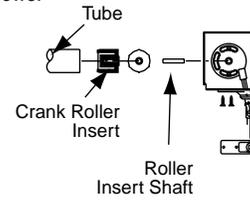

Figure 3
- ⑤ If the shade has a detachable crank handle, remove the universal joint from the bottom of the end cap by removing 2 screws. (Fig. 3). Save universal joint & screws.